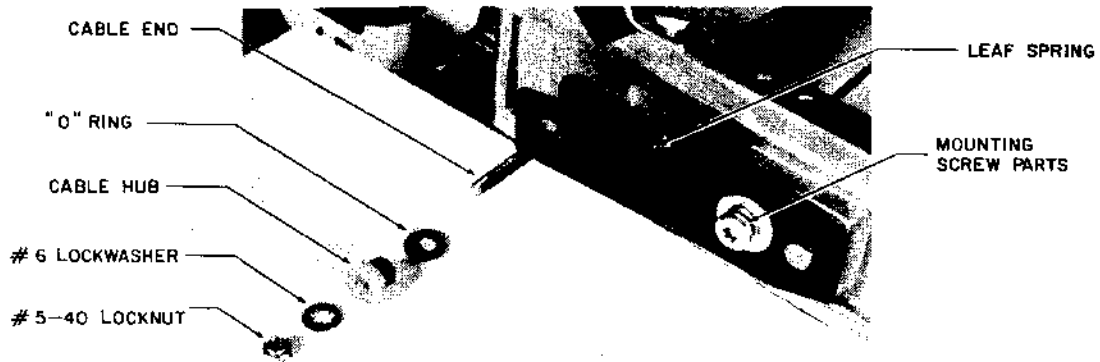

Figure 5-37 CARRIAGE DRIVE CABLE TENSION SPRING ASSEMBLY
- # Assemble the following items on the free end of this second cable shank as it protrudes out beyond the side of the frame, in the order listed in Figure 5-37. Put the locknut on on finger tight only and avoid twisting the cable.
Refer to Figure 5-37.